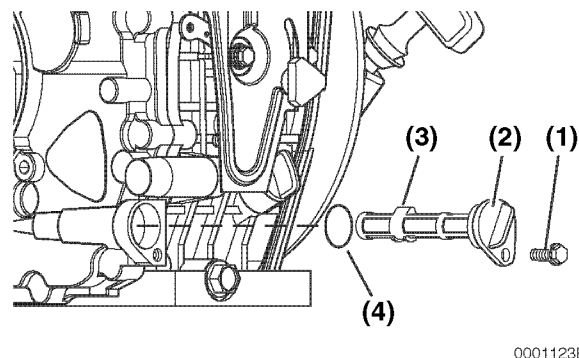

Figure 5-5
1. Remove the oil filter retaining bolt (**Figure 5-5, (1)**).
3. Pull the oil filter cap (**Figure 5-5, (2)**) out and remove the oil filter (**Figure 5-5, (3)**).
5. Lubricate the O-ring (**Figure 5-5, (4)**) with oil and reinstall the oil filter (**Figure 5-5, (3)**). Replace filter if damaged.
6. Make sure the oil filter cap is fully seated (**Figure 5-5, (2)**).
7. Reinstall and tighten the oil filter retaining bolt (**Figure 5-5, (1)**).